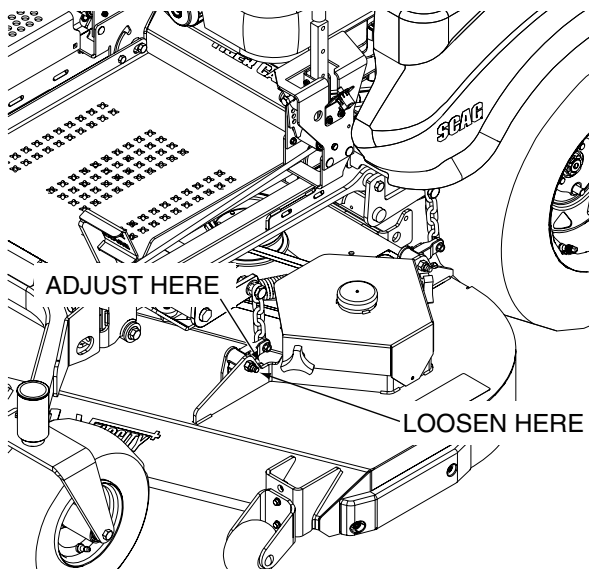

Figure 6-6. Cutter Deck Pitch Adjustment
- Loosen the elastic stop nuts securing the deck level links on the front of the cutter deck on both sides. See Figure 6-6 and 6-7.